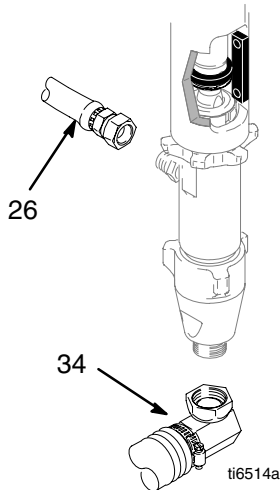

Fig. 11
3. Fig. 11 – 13. Remove pump.
3. Fig. 11. Remove suction tube (34) and hose (26).